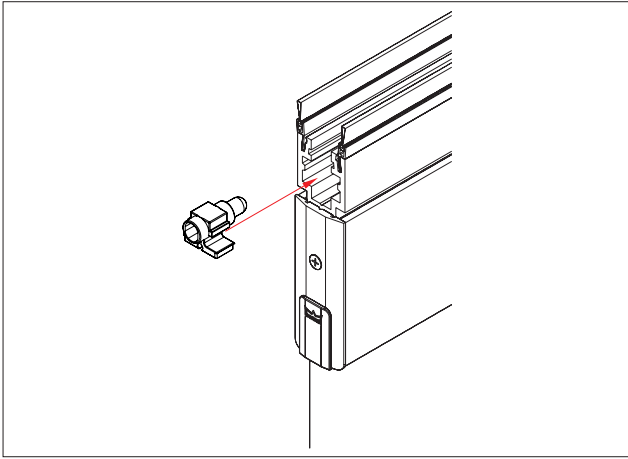

Fig. 48 Inserting the combination fixing block
4. Insert combination fixing block as shown in Fig. 48 into the carrier profile.